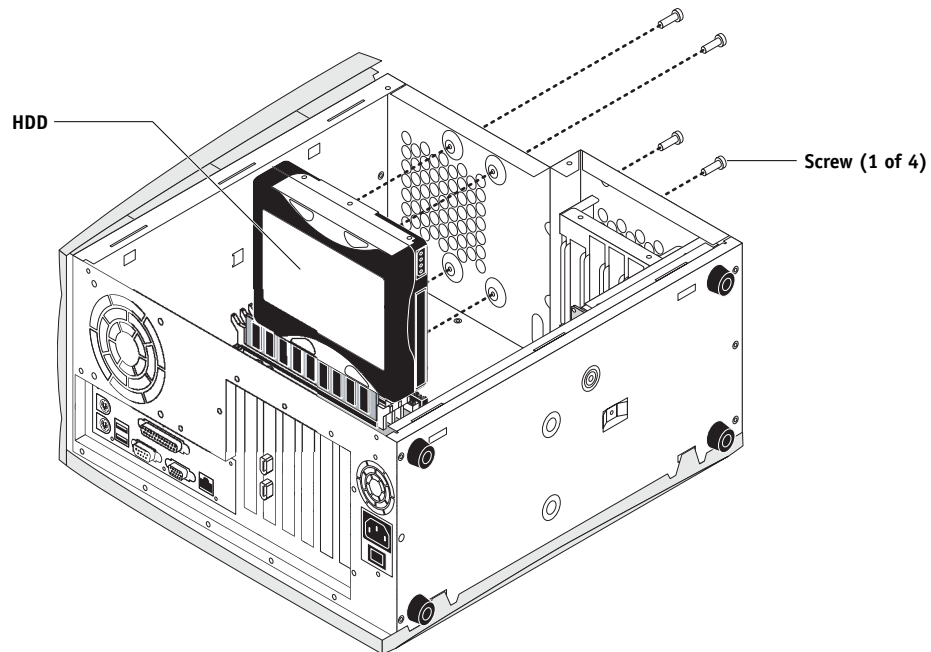

FIGURE 4-28 Removing the HDD
6. Remove three of the four screws that attach the HDD to the chassis (see Figure 4-28).
The HDD should be positioned as shown in Figure 4-28 on page 4-45.